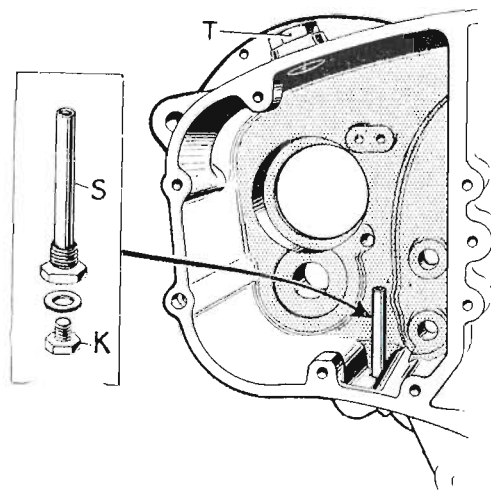

Fig. 16.
Apart from topping-up at regular intervals, very little maintenance should be required. The gearbox drain plug (S) incorporates a level plug (K) and, to top-up, remove the filler plug (T) Fig. 16, take out the level plug and replenish with the correct grade of oil until it starts to flow out through the level plug hole.